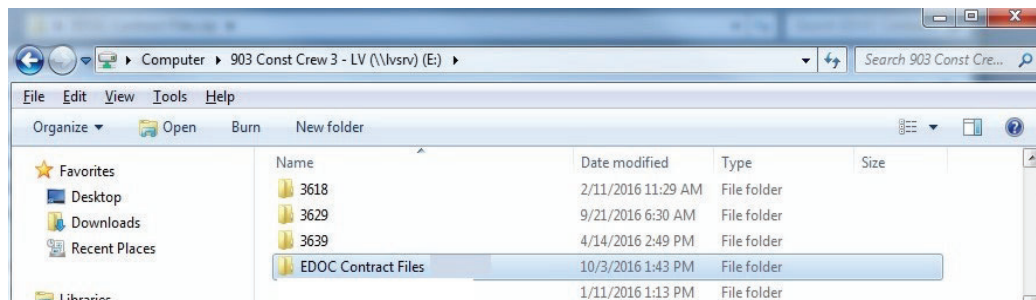

Figure 2-12: EDOC Contract Files Directory
11. When the files are done copying, Windows Explorer will open and you will see the EDOC Contract Files directory (Figure 2-12).